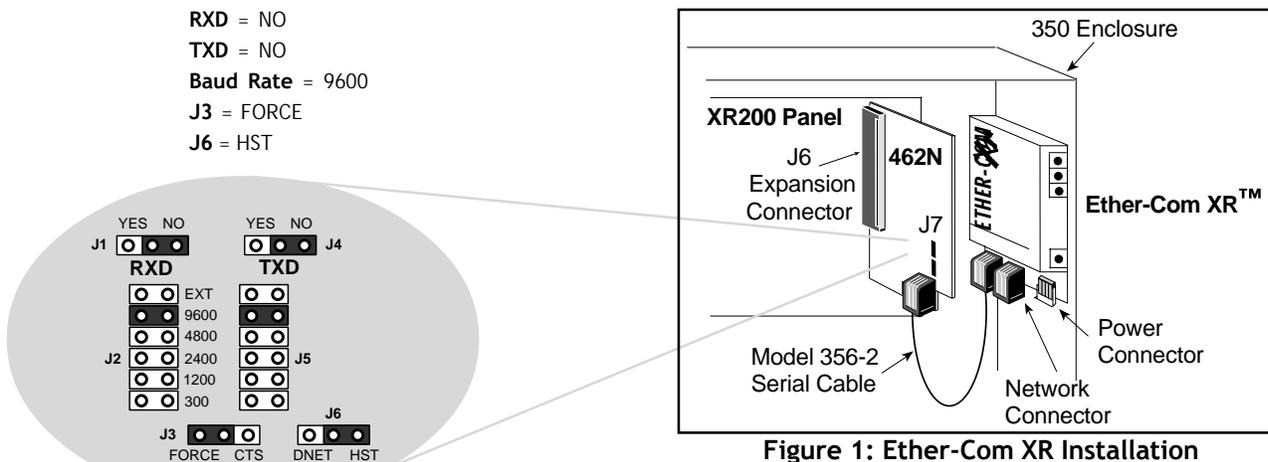

Figure 1: Ether-Com XR Installation
The Ether-Com XR™ Single Port Router allows a DMP XR200, XR200-485, or XR2400F Command Processor™ panel to communicate with a DMP SCS-1 Receiver over an existing Ethernet network. Operating as an interface between the panel and the network, the Ether-Com XR™ mounts inside the panel enclosure and is powered by the panel. The panel communicates to the Ether-Com XR through a 462N Network Interface Card as shown in Figure 1. This product is for use with a UL listed alarm control from DMP. This unit may only be connected to a UL limited power supply.
2. Install the Ether-Com XR into the 3-hole pattern of the panel enclosure as shown in Figure 1.
4. Connect the Model 356-2 serial cable from the Ether-Com XR's serial connector (J3) to the 462N Network Interface Card's network cable connector (J7), as shown in Figure 1. Refer to LT-0209 Installation Sheet for instructions to install and setup the 462N Network Interface Card.